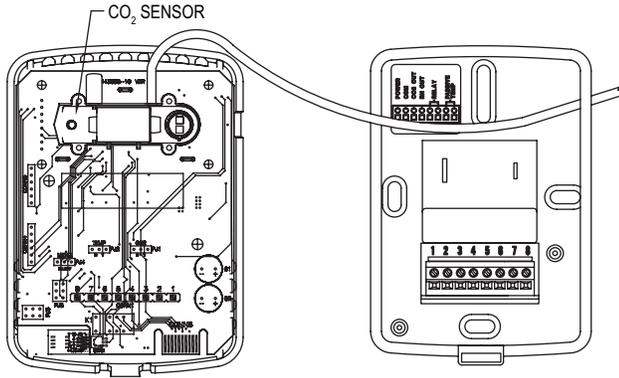

Figure 7: Calibration
Step 2: Slide the calibration tubing through the slots on the back plate and attach to one of the nipples on the CO₂ sensor (See Figure 7).